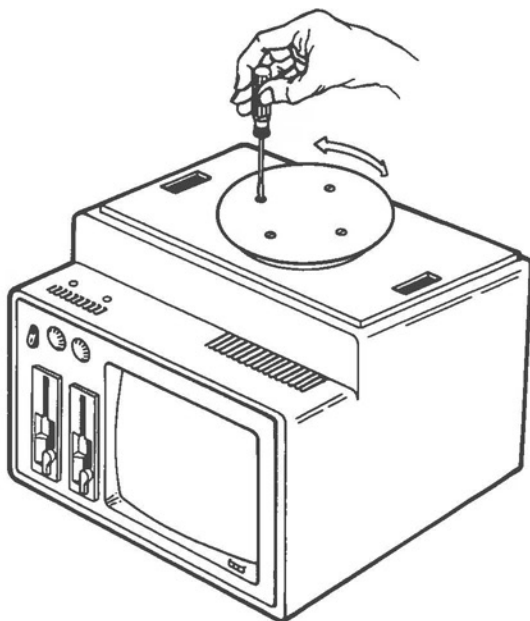

Figure 3-44 Tilt and Swivel Installation
5. Install the four screws to the bottom of the computer and turn clockwise until tight (see Figure 3-44).